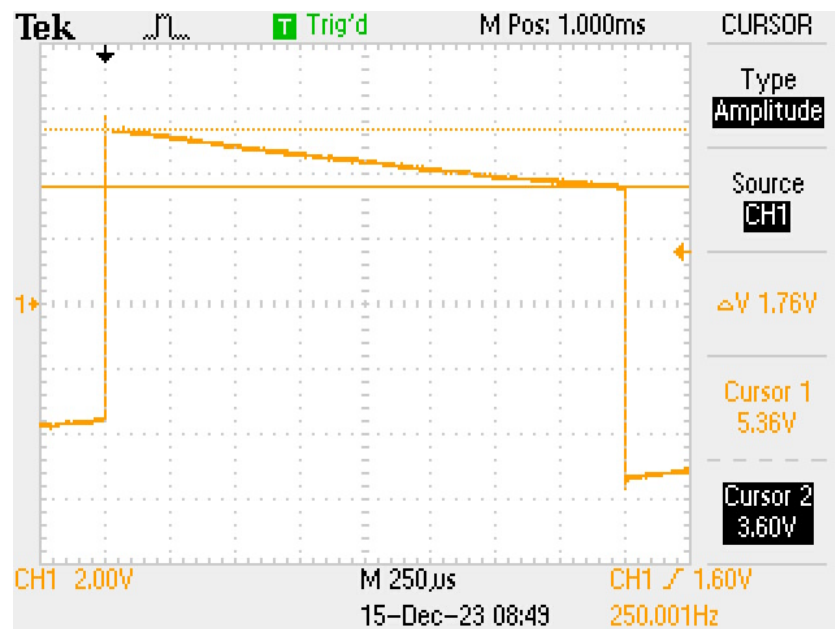

Figure 2.3: Measuring V_{max} & V_{min} on a Tilt waveform
2. Expand the waveform across the display of the oscilloscope using the horizontal control, see Fig 2.3.
3. Use the cursors to measure V_{max} and V_{min} of the pulse, see Fig 2.3. Cursor 1 (V_{max}) is 5.56V and Cursor 2 (V_{min}) is 3.6V.